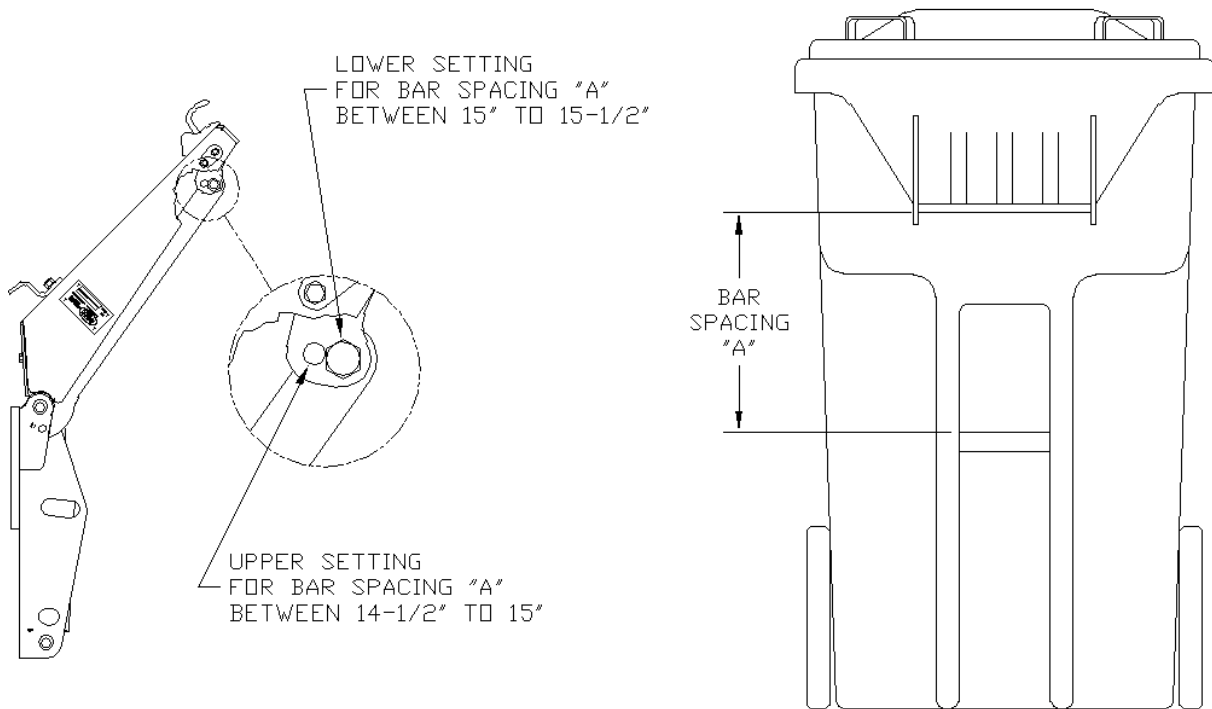

figure O-2
The lower hook is equipped with two settings that must be properly adjusted to accommodate the carts being lifted. Check the distance (A) (figure O-2) between the upper bar and the lower bar on the cart. If this dimension is between **15" to 15-1/2"**, leave the lower hook attachment in the lower setting. If this dimension is between **14-1/2" to 15"**, move the lower hook attachment to the upper setting.